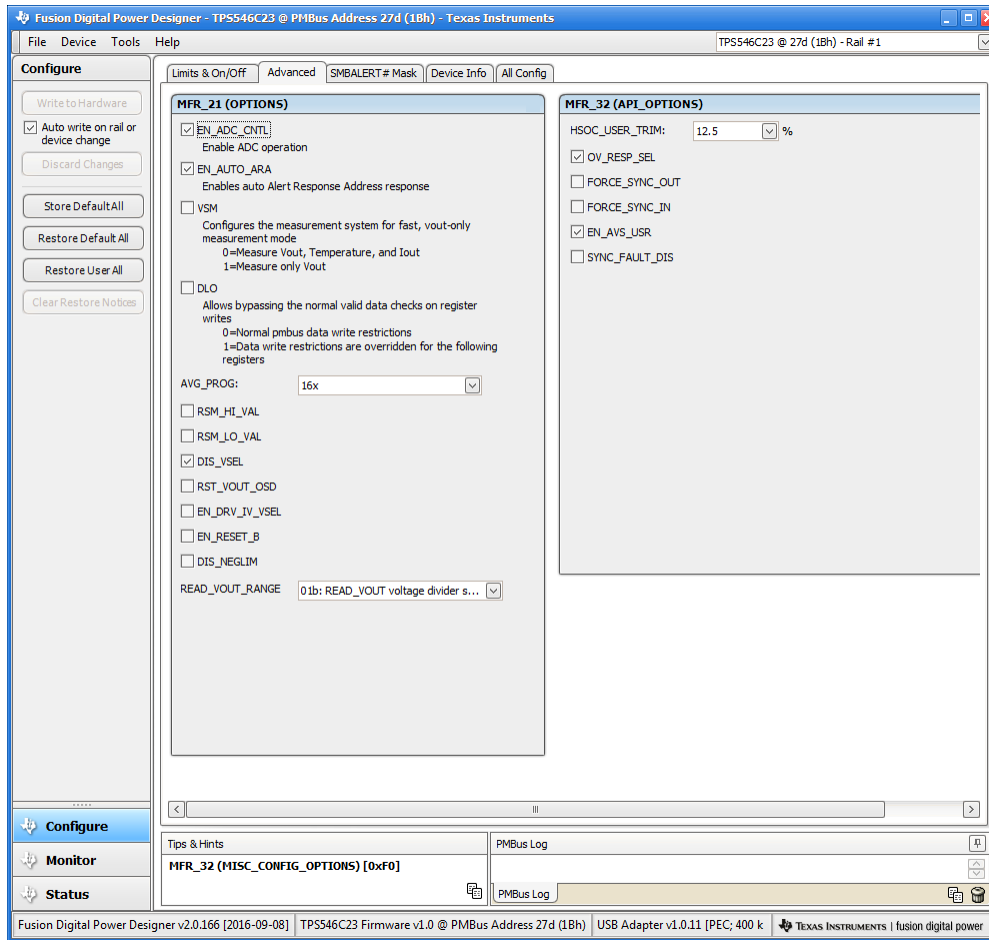

Figure 32. Configure - Advanced
- Use the **Advanced** tab Figure 32 to configure: